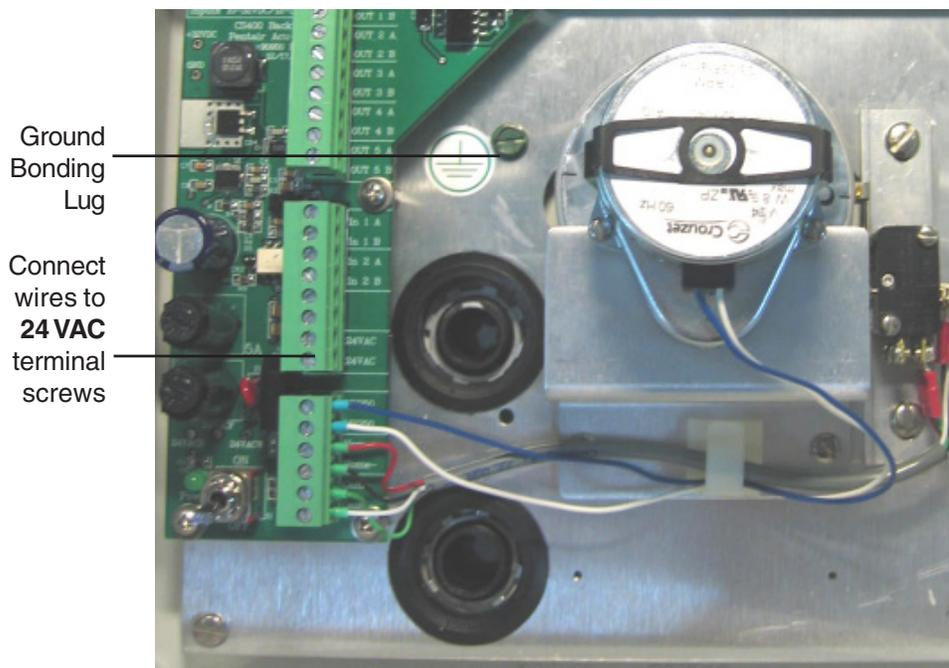

Figure 3: External 24VAC Power Supply Connections (inside enclosure view)
3. **24 VAC connection:** Connect the two 24 VAC wires from the external power supply to the 24VAC screw terminals, as shown in Figure 3.
4. **Earth Bonding (Grounding):** As required by the latest national and local codes, attach the incoming GROUND wire to the GROUND BONDING LUG located on the aluminum panel inside the enclosure (see Figure 3). Earth bonding is necessary to ensure personal safety and safety of equipment.